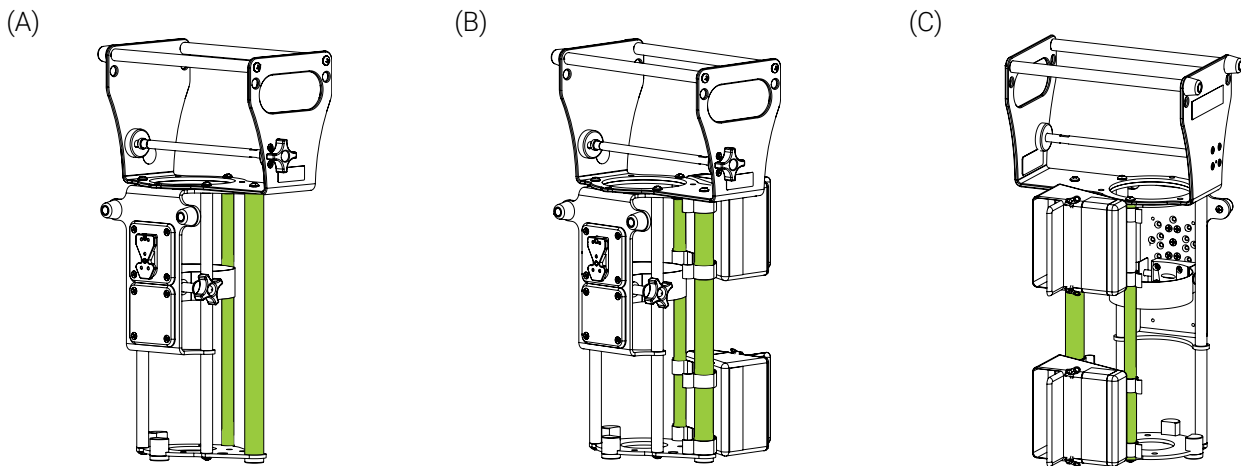

Figure 16: Installing the PAX oxygen bags
2. For each accessory bag, align and loop the female and male linear fabric strips (2X) around the transport handle and the rod of the protective cage located at the front of the gas cylinder (Figure 16).